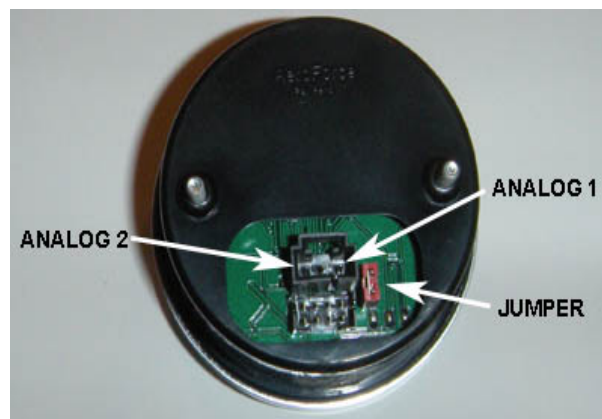

Figure 1
- 4. Plug both cables into the back of the *Interceptor*.** See figure 1. Press the *Interceptor(s)* into the gauge pod or mounting hardware.
6. **Connect the 0-5v analog inputs (optional).** You will see 3 pins above the main connector on the back of the gauge as shown in *figure 1*. The 2 outer pins connect to the analog inputs. The center pin is for switched 12v power and is not required for virtually any CAN bus vehicle. To connect switched 12v power first remove the **jumper** next to the main connector if connecting to external power. This jumper is required for OBD2 port power only. Connect separate **red** power wire, which exits the middle of the 3 wire mini cable as shown in *figure 1*, to a switched 12v line or circuit in the vehicle. These circuits are commonly known as “accessory” circuits because they are only “hot” when the ignition is turned on. A recommended way of doing this step is to use a product called an “*Add a Circuit*”, made by *Littelfuse*, available at most car parts outlets. These kits, which sell for under \$10, allow you to easily use an existing circuit in the fuse block, such as the power windows, sunroof, etc. to power the gauge only when the ignition is on, known as ACC circuits.
The right side pin, when looking at the rear of the gauge, goes to analog input 1. The left pin is for analog input 2. See *figure 1*. Included in the gauge packaging is a 3 wire cable that connects here. Once attached to the gauge, you'll see that the green wire is for analog 1, the white for analog 2. These inputs can be used to read the outputs from pressure senders, A/F ratio analog outputs, 2 or 3 bar MAP sensors, or any voltage up to 5v that you want to monitor and/or record. You can scale these signals with a menu function described below. ***These inputs are rated for 0-5 volts, with an over-voltage protection circuit built in. However, running more than 6v into these inputs for an extended period of time could effect the operation of the entire gauge, and possible damage it.***
- 7. Connect switched 12v power (if necessary).** The center pin of the 3 wire harness is for switched 12v power and is not required for virtually any CAN bus vehicle. However, if the gauge is not turning on/off as desired with power coming from the OBD2 port, you can use this method of power as an alternative. To connect switched 12v power first remove the **jumper** next to the main connector if connecting to external power. This jumper is required for OBD2 port power only. Connect separate **red** power wire, which exits the middle of the 3 wire mini cable as shown in *figure 1*, to a switched 12v line or circuit in the vehicle. These circuits are commonly known as "accessory" circuits because they are only "hot" when the ignition is turned on. A recommended way of doing this step is to use a product called an "*Add a Circuit*", made by *Littelfuse*, available at most car parts outlets. These kits, which sell for under \$10, allow you to easily use an existing circuit in the fuse block, such as the power windows, sunroof, etc. to power the gauge only when the ignition is on, known as ACC circuits.